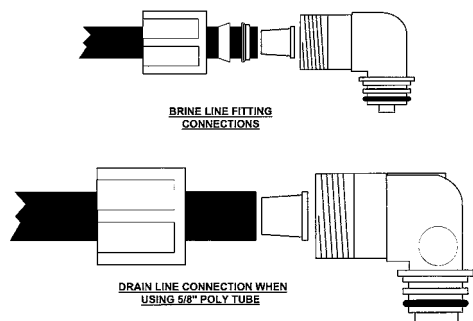

Figure 6a
5. The drain connection may be made using either 5/8" polytube (See figure 6a, page 5) or a 3/4" female adapter. If soldering, joints near the drain must be done prior to connecting the
7. Connect the brine line found in the salt keeper to the brine connection on the control valve. The control valve has a standard refill elbow to which a 3/8" flexible tube can be connected, see figure 6a, page 5. (An optional elbow can be ordered which accommodates a 1/2" flexible tube for a high regenerant draw rate situation). Both elbows use the same refill flow control and retainer. Do not connect the other end of the brine line to the safety brine valve in the salt keeper at this time. Make sure the floor is clean beneath the salt tank and that it is level and smooth. No grid is required with standard brine tank as softener is programming as prefill.